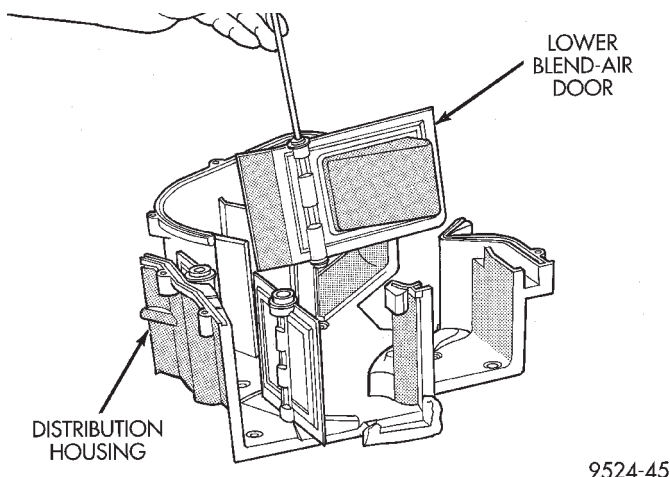

Fig. 78 Lower Blend-Air Door
(25) Remove lower half of the blend-air door (Fig. 78).